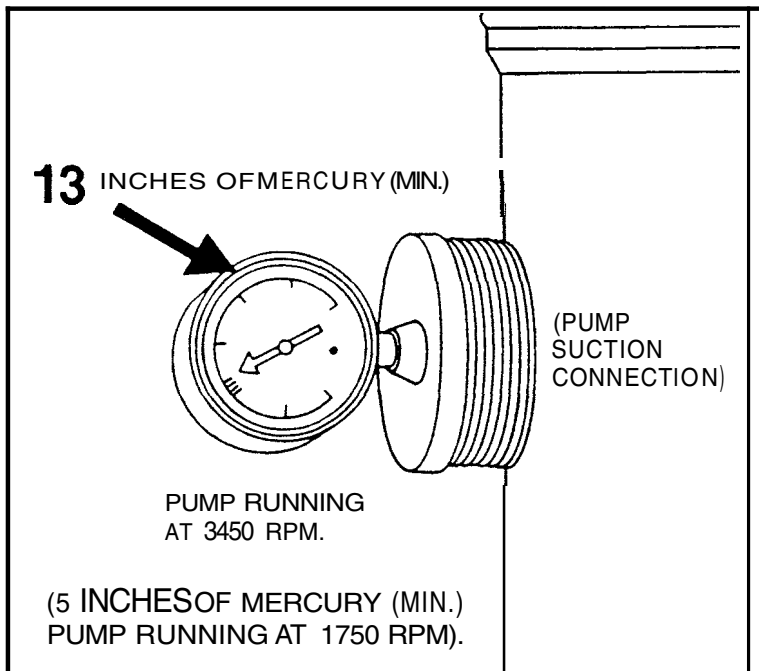

FIGURE 4
3. SHUT OFF POWER SOURCE TO PUMP. Shut off valves to and from pump. While observing all safety precautions for the liquid being pumped, disconnect suction and discharge lines and drain the pump completely. Fill the pump with water. Install a vacuum gauge in the suction port (see figure 4). Turn on power source. Vacuum should exceed 13' of mercury when pump shaft is rotating at 3450 RPM and should equal or exceed 5' of mercury with pump shaft at 1750 RPM. If vacuum is below these values, check the following:
- d. Check for worn impeller, volute plate, or volute. If necessary, replace these parts. (See items 8, 8.A, & 8.B of section V).
- e. Loose strainer cover (item 9). **HAND TIGHTEN ONLY.**
- f. Damaged or missing strainer cover O-ring (item 10). Replace.
- g. Loose drain plug (item 26) on strainer housing. **HAND TIGHTEN ONLY.**
- h. Damaged or missing O-ring (item 27) on strainer housing drain plug. **REPLACE.**
- i. Loose housing screws and nuts (items 14 & 22). Lighten until housing halves meet. **DO NOT OVERTIGHTEN.**
- j. Damaged, missing or pinched body O-ring (item 15). Remove and re-insert. If leakage persists, replace per assembly instructions. See section V.